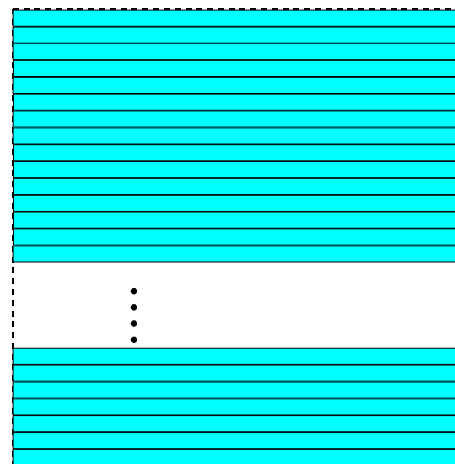

Fig. 121: Decimation Disabled
- 1: the complete frame will be transmitted out of the camera (no vertical decimation is realized); see Figure 121.